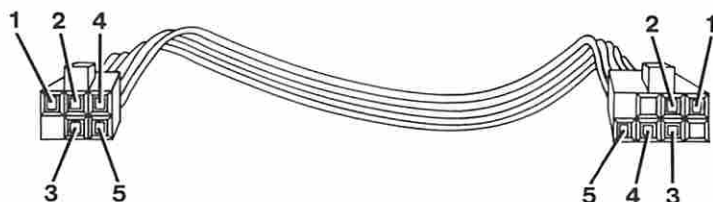

Figure 1. Continuity Check
- Check the continuity of the cable (Figure 1).